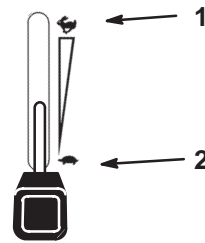

Figure 17
5. Move the throttle control to the fast position before starting a cold engine (Fig. 17).
1. Push the PTO to off (Fig. 17).
2. Move the throttle lever midway between the slow and fast positions (Fig. 17).